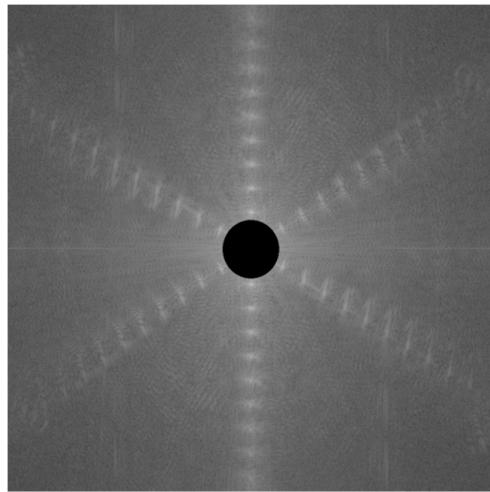

Figure 4: ImageJ FFT of an image, with the center area subsequently blocked out.
5. Draw a small-ish circle around the center spots in that “BFP” image, then use Edit / Fill (or use Ctrl+F) to zero them out (compare to Fig. 4, on the next page).